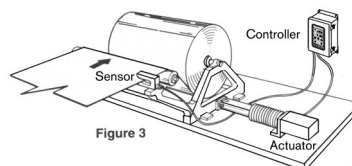

Figure 3
**Windup Guiding (See Figure 3)**